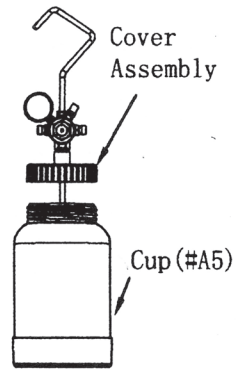

Figure 4—
Step1. Unscrew and remove the Cover Assembly from the CUP (#A5) as shown in Figure 4.